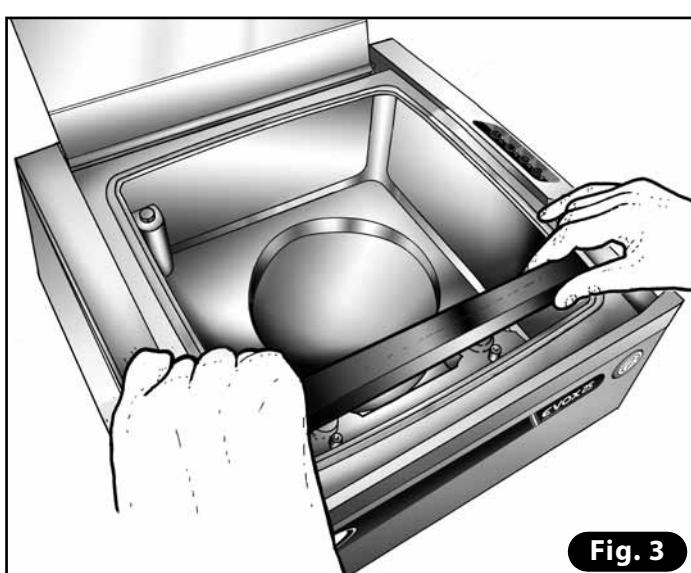

Fig. 3
8.1.5 SEALING BAR CLEANING (Fig. 3)